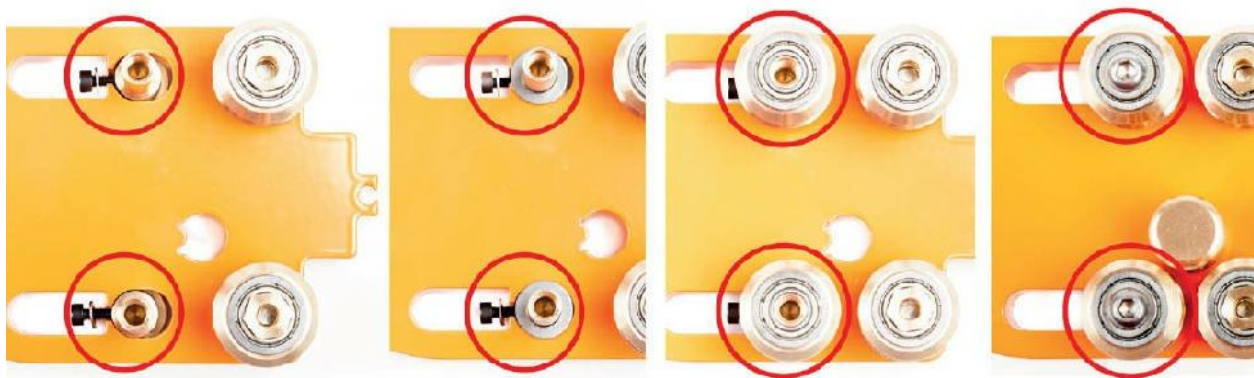

Fig. 2.40 *Mounting the upper rollers*
- 15.** Insert the roller holders in the holes indicated in figure 2.40, making sure that the washers are located between the side panel and the bolt heads.